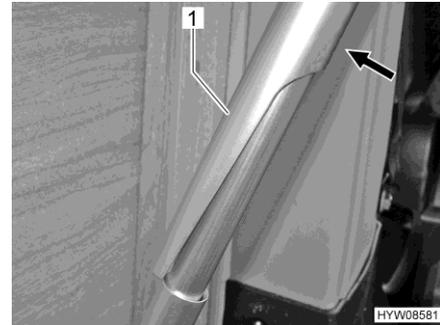

Fig. 48 Support leg (unlocked)
- Press the upper part of the table leg (Fig. 48,1) towards the exterior wall (Fig. 48).